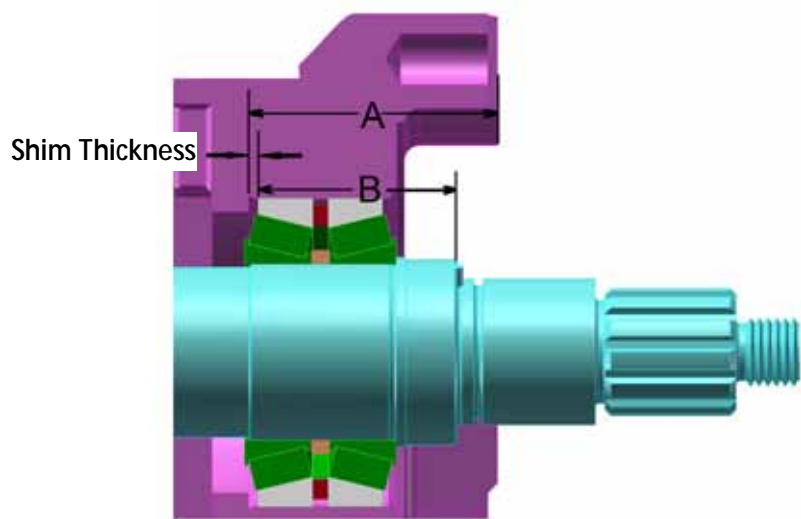
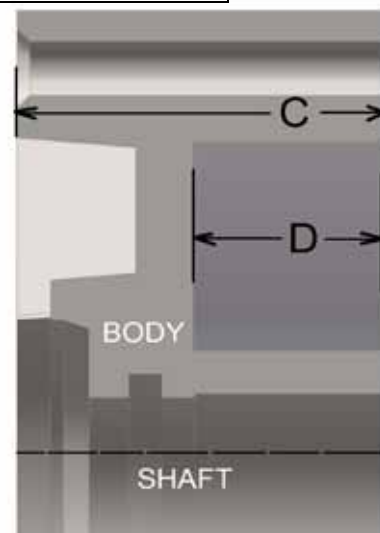

Figure 59 –Measuring Gearbox Dimensions
Figure 60 – Measuring Body Dimensions
3. If existing shims are lost or a new shaft is used, it will be necessary to calculate the required shims for the new replacement shafts and bearings, see Figure 59 and Figure 60. It is important to carry measurements and calculations to three decimal places, i.e. 0.074.
- a. Measure dimensions "A" in the gearbox and "B" on the shaft (Figure 59).
- b. Measure dimensions "C" and "C" on the body (Figure 60).